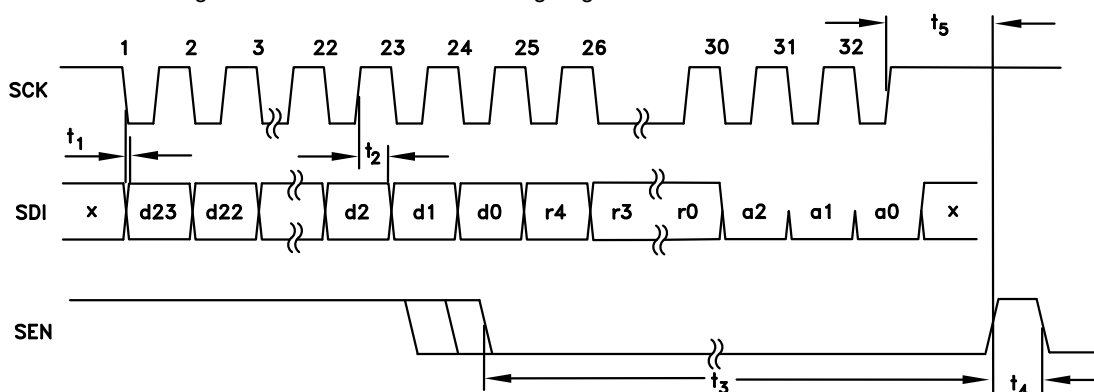
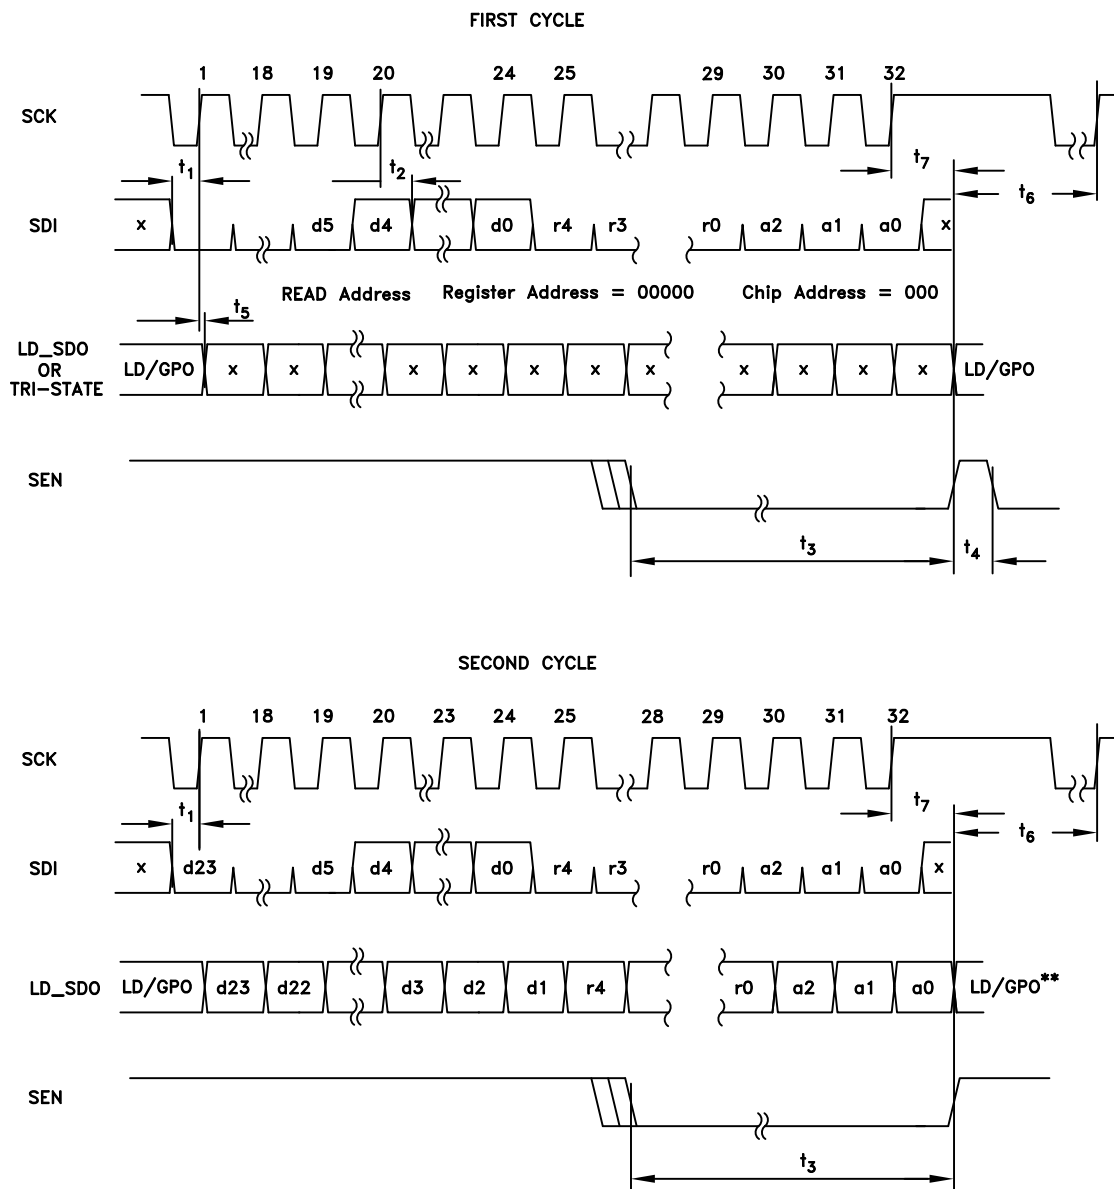

Figure 26. Open Mode - Serial Port Timing Diagram - WRITE
Figure 27. Serial Port Timing Diagram - READ
The Serial Port Open Mode, shown in Figure 26 and Figure 27, features:
A typical WRITE cycle is shown in Figure 26.
A typical READ cycle is shown in Figure 27.
- The Master (host), on the first 24 falling edges of SCLK places 24-bit data, d23:d0, MSB first, on SDI as shown in Figure 27. d23:d5 should be set to zero. d4:d0 = address of the register to be READ on the next cycle.